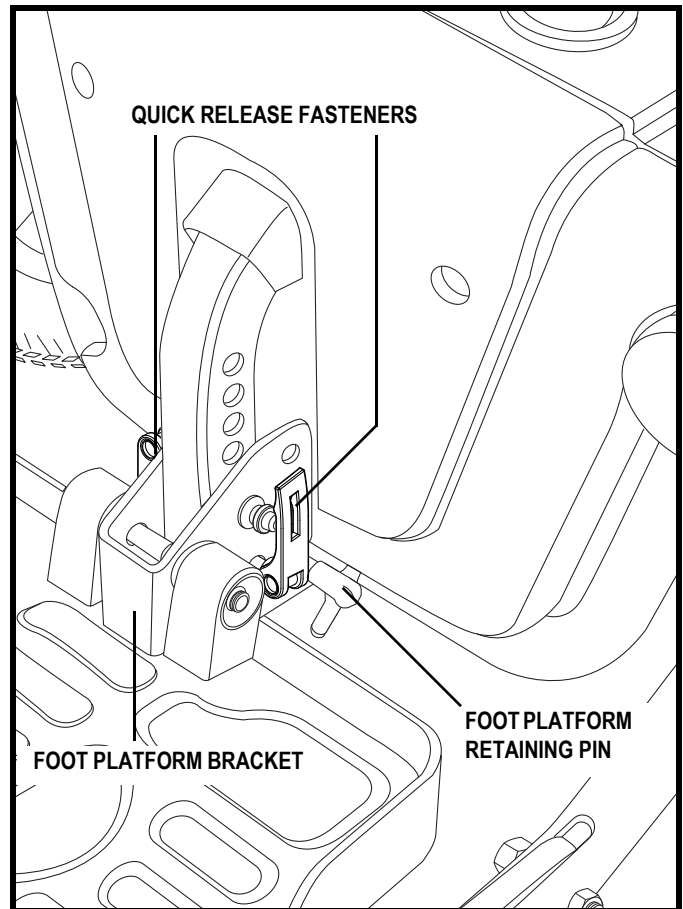
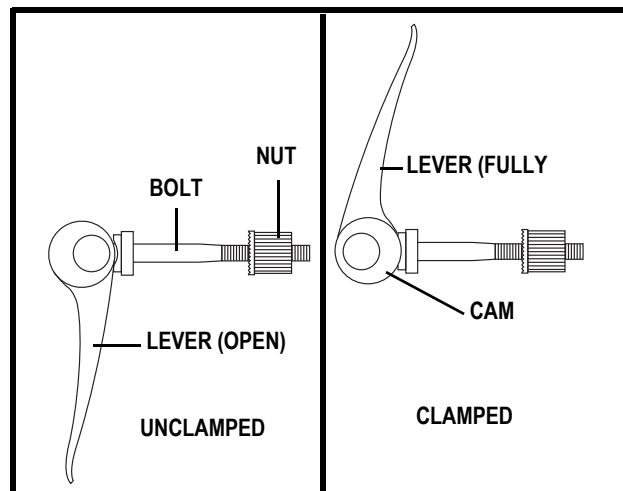

Figure 20. Foot Platform Adjustment
Figure 21. Quick Release Fastener Operation
1. Remove the quick release fasteners from the foot platform bracket. See figure 20.
1. Remove the fasteners from the foot platform bracket. See figure 20.
**Quick Release Fasteners:** The foot platform is attached to the power base with two quick release fasteners. See **figure 20**. Each quick release fastener consists of a bolt, a lever, and a nut. See **figure 21**. The lever has a cam on the end that allows it to clamp into place. The quick release fastener has two states: clamped and unclamped. When the lever is open, the quick release fastener is unclamped. When the lever is closed, the quick release fastener is clamped.